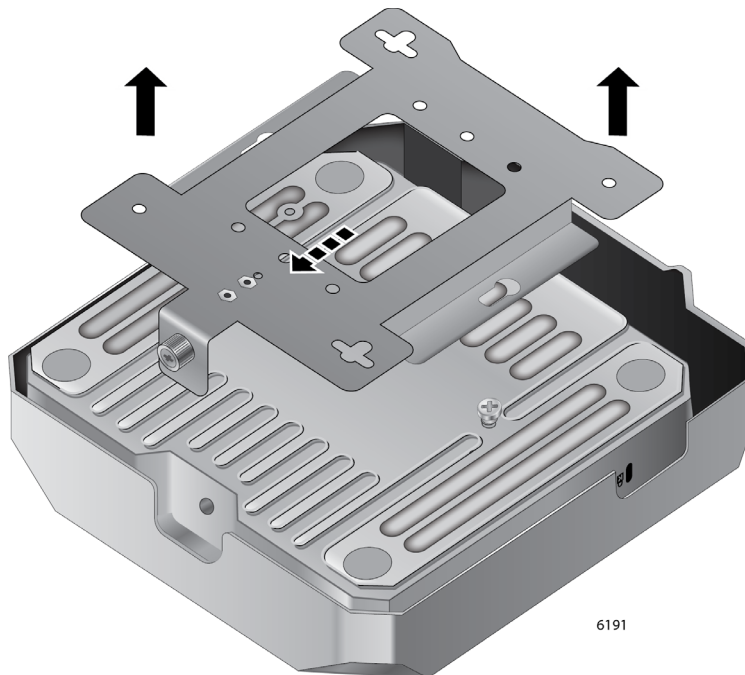

Figure 11. Removing the Mounting Bracket from the Access Point
4. Slide the mounting bracket forward and remove it from the access point. See Figure 11.